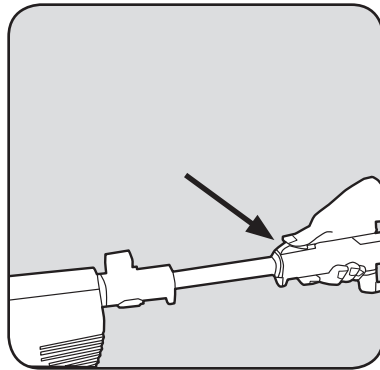

Fig. 4
4. Push the button on the telescoping wand forward to shorten or lengthen the wand to the desired length. (Fig. 4)